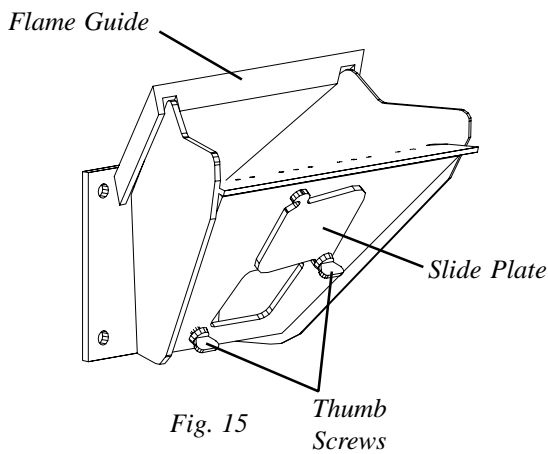

Fig. 15
- * Remove, clean, and inspect flame guide for warpage and replace as needed, fig. 15. The flame guide is an expendable part and may need to be replaced in a few years.
- * Open burn pot clean-out slide plate by loosening the two thumb screws and rotating the slide plate clockwise, fig. 15. Remove fly ash and replace slide plate.